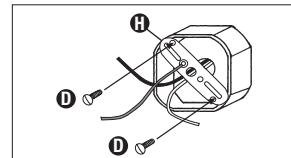

Fig. 3
- Line up the holes on the mounting bracket (H) with the holes on your junction box. Using either (2) #6 screws or (2) #8 screws (D) (depending on size of the holes in your junction box), attach the mounting bracket (H) to your junction box (Fig. 3).